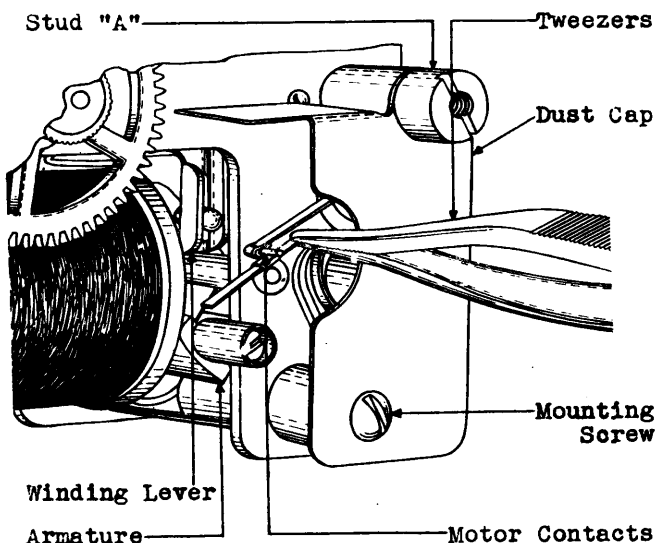

Fig. 10 - Method of Adjusting Motor Contacts with Tweezers
(3) Remove the hands and dial as outlined in 3.01, apply the potential directly to the motor winding terminals and note whether the motor armature responds. See that the battery potential is within the specified limits. If the motor does not function, it is an indication that the windings are open.
(4) If the motor armature operates and releases satisfactorily but does not wind satisfactorily, examine the driving pawl and winding lever. If they are broken or out of adjustment refer the matter to the supervisor.
(5) If the armature does not operate and release continuously when the potential is applied by operating the key, but operates only once on each application of potential it is an indication that the motor contacts do not break when the armature operates. Check this and, if necessary, adjust them as outlined in (6) and (7).
(6) If the motor contacts require adjusting it may be necessary to remove the dust cap in front of the contacts requiring adjusting. The front dust cap is removed by removing the lower mounting screw with the 3-1/2" cabinet screw-driver and sliding the dust cap from the groove in stud "A". Adjust the contacts as required with the tweezers as shown in Fig. 10.